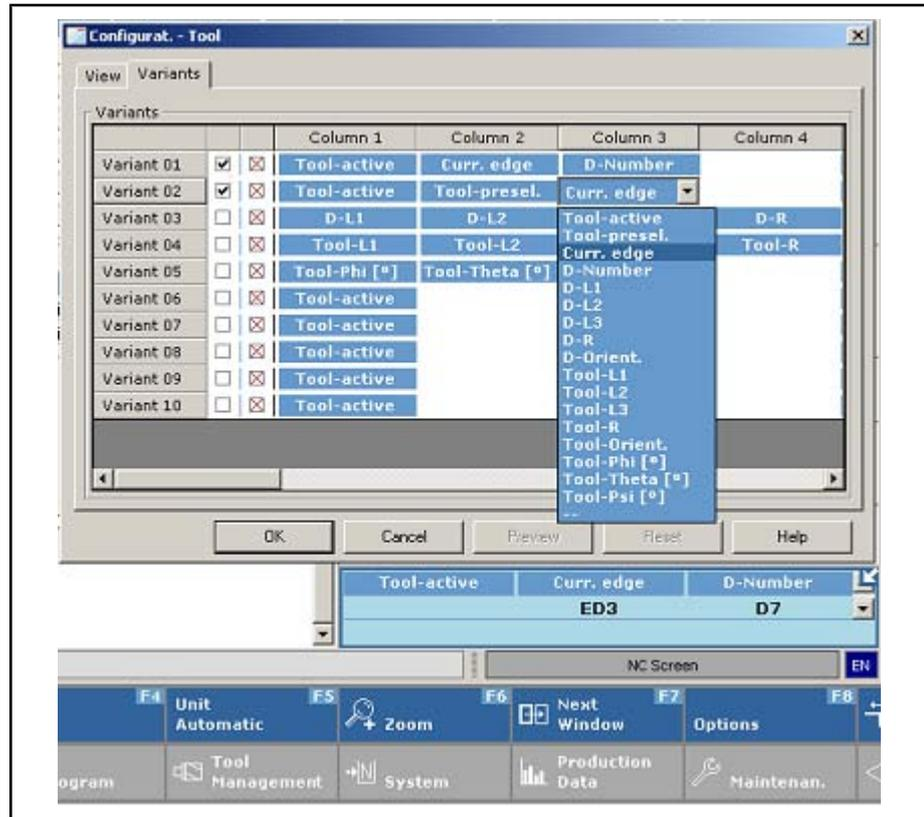

Fig. 7-63: Dialog: Configuration - Tool (variants)
6. For example, click on the entry in the 3rd column for variant 2. In the example in fig. 7-63 "Dialog: Configuration - Tool (variants)" on page 182, "act. TE" is shown in this column (Active tool edge).